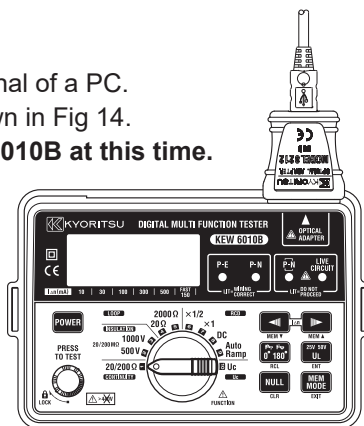

Fig 14
- (1) Connect Model 8212 USB to the USB terminal of a PC.
- (2) Insert Model 8212 into KEW 6010B as shown in Fig 14.